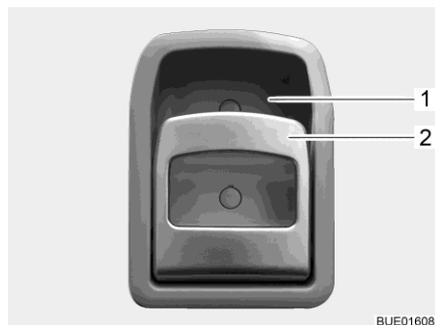

Fig. 54 Door lock (conversion door, inside)
- Opening:** ■ Pull on the handle (Fig. 54,2). The door lock is unlatched or opened.
- Locking:** ■ Press the upper part of the handle (Fig. 54,2) in the direction of the recessed handle (Fig. 54,1). The door lock is locked.